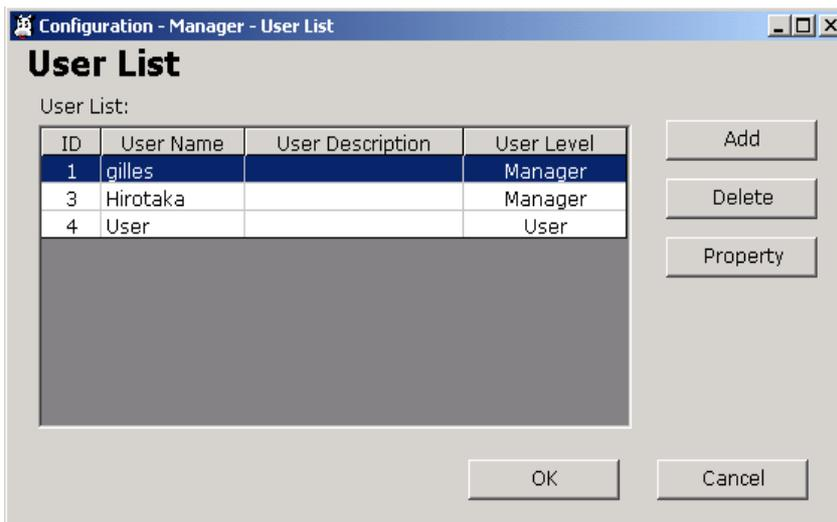

Fig. 11.4-1 : User list
(1) Click on "User list" in the Configuration menu. The 'User list' screen is opened (Fig. 11.4-1).